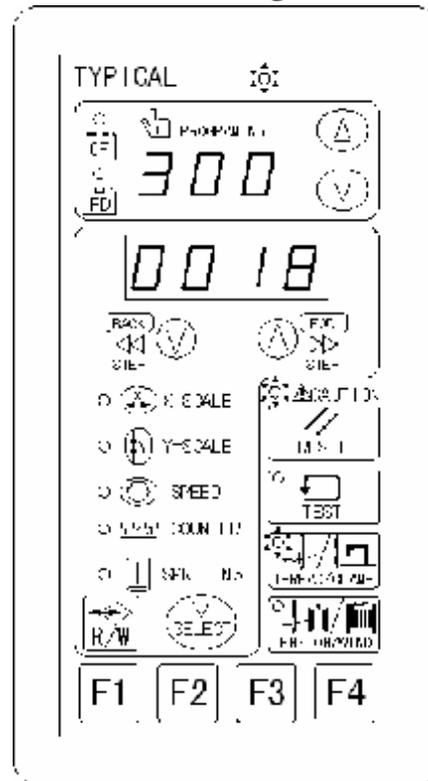

Fig. 6-13
4. Press  key, to save pattern, with operation panel as shown in Fig. 6-13.